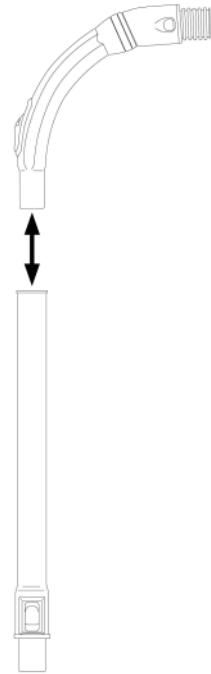

FIGURE 6
2) Slide Telescopic Extension Tube onto end of Main Siphon as shown (FIGURE 6). Firmly press Tube onto Siphon until it is snug and secure.